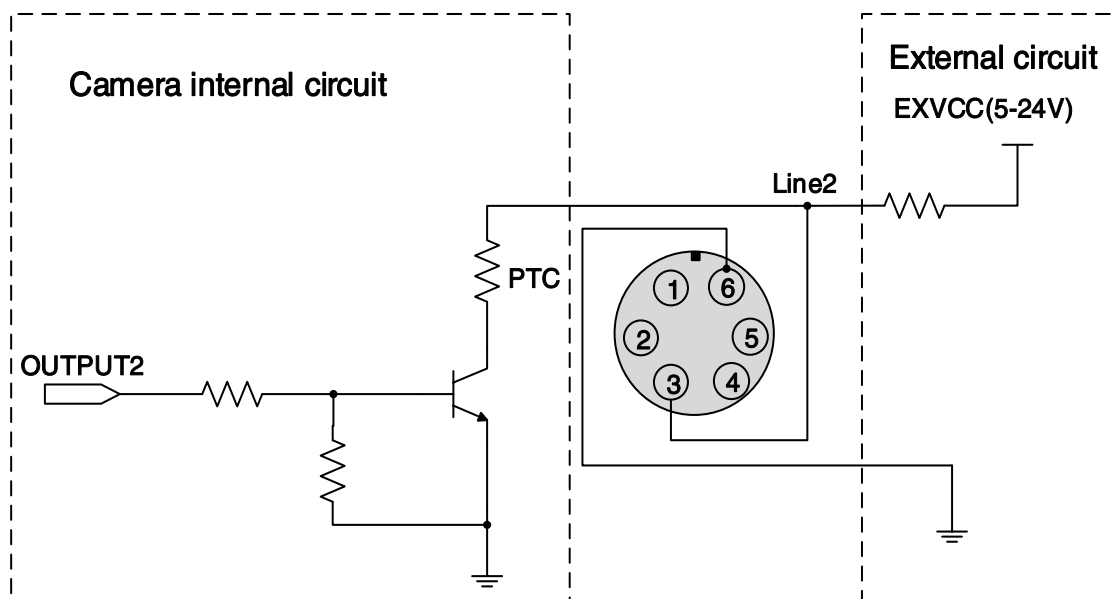

Figure 7-12 Internal equivalent circuit of camera when Line2 is configured as output
- When Line2/3 is configured as output, the internal equivalent circuit of camera is shown in Figure 7-12, taking Line2/3 as an example